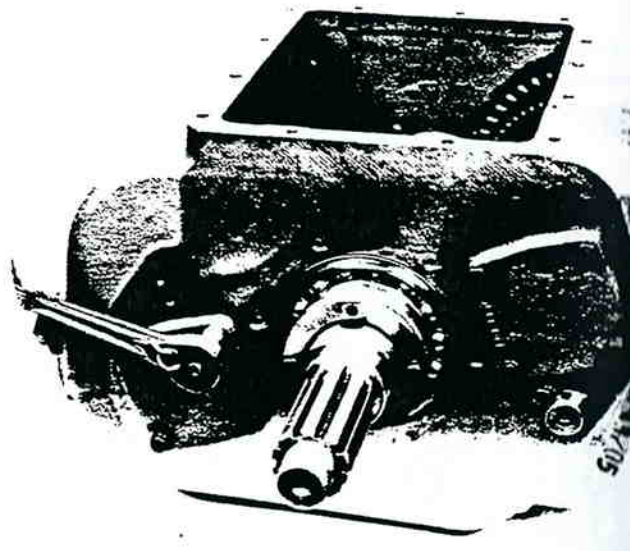

Figure 13-148. Cover Installation.
7. If properly timed, install both countershaft rear bearing covers with new gaskets and secure to case with capscrews (figure 13-148).